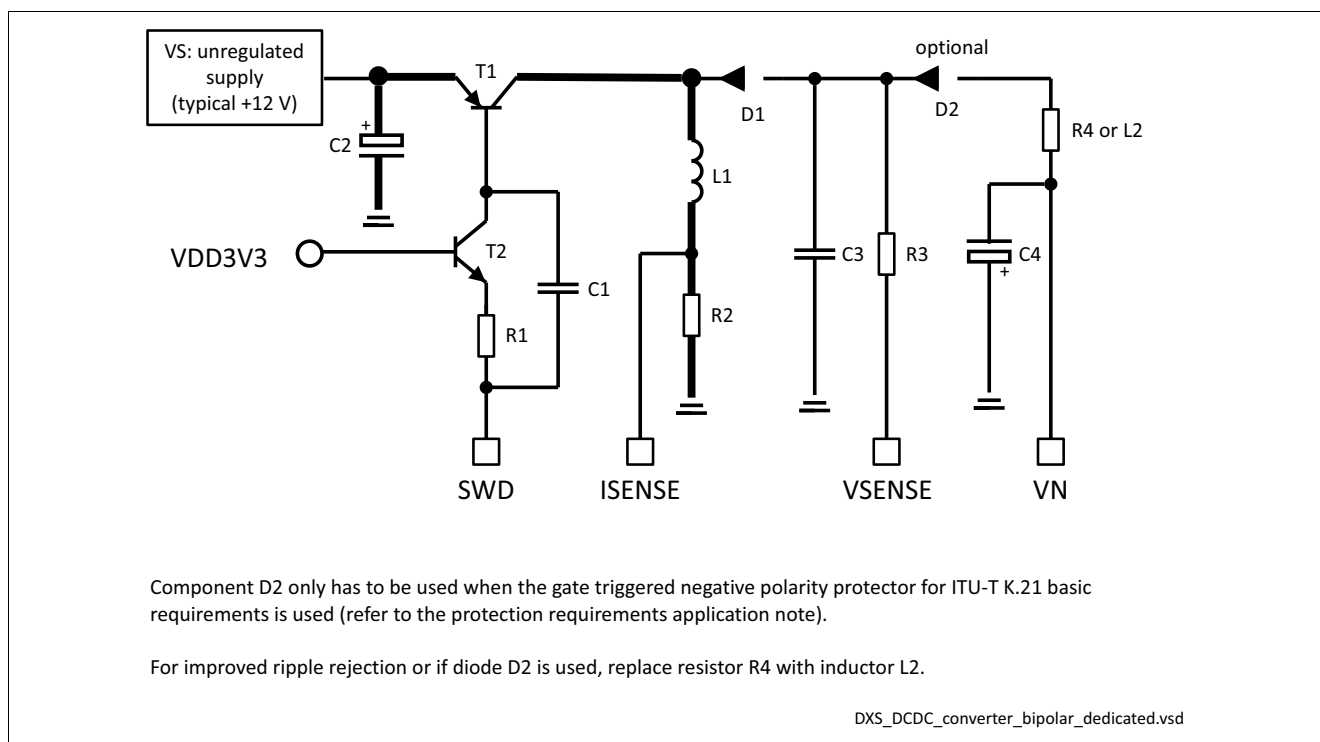

Figure 28 Inverting Buck-Boost Converter Circuit for 12 V (IBB12)
- **Inverting buck-boost DC/DC converter with input voltage +12 V (IBB12)**, see Figure 28
Table 42 shows the external passive components required for a DXS101 solution with protection. For more details see **Figure 27** and **Figure 28**. The supply input is 12 V and the ringing voltage is 65 V_{RMS} with no DC offset for ringer loads of up to 3 REN or up to 5 REN with ring current regulation.
Inverting Buck-Boost Converter Circuit T0.2 for 12 V, see Figure 28